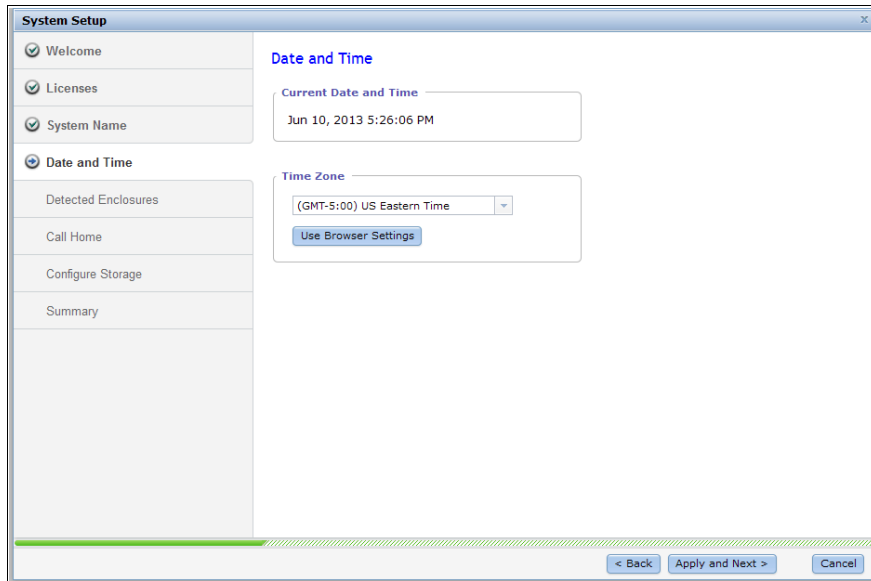

Figure 4-18 Setup wizard - Set date and time
5. Set up the date and time for your system and click **Apply and Next** as shown in Figure 4-18.